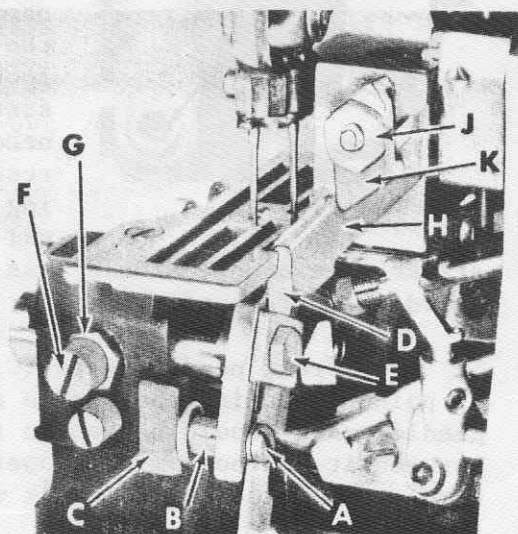

Fig. 15
Replace the lower knife holder assembly. In replacing the lower knife holder assembly, tighten screw (A, Fig. 15) so that when the face of the flange on sleeve (B) seats against throat plate mounting bracket (C), a free lateral motion of the lower knife and holder assembly is obtained when the knife is manually pressed at its upper corner. Lower knife (D) should be set with cutting edge flush with the top of throat plate. Adjustments are made with hexagonal head screw (E) which holds the lower knife. Lower knife is spring pressed against the upper knife, so no lateral adjustment is necessary when the width of trim is changed.
Lower knife may be secured in any position by tightening screw (F, Fig. 15) and locking nut (G) against support bracket. Because screw (F) also serves as latch pin for the cloth plate latch spring, it should always be locked with nut (G) even when screw is not tightened against lower knife holder.
Replace the upper knife assembly. Clamp upper knife (H, Fig. 15) in position, setting nut (J) to hold clamp (K) in its most clockwise position against upper knife. At the bottom of its stroke, front cutting edge of upper knife should extend not less than $\frac{1}{64}$ inch (.40 mm) below cutting edge of lower knife.